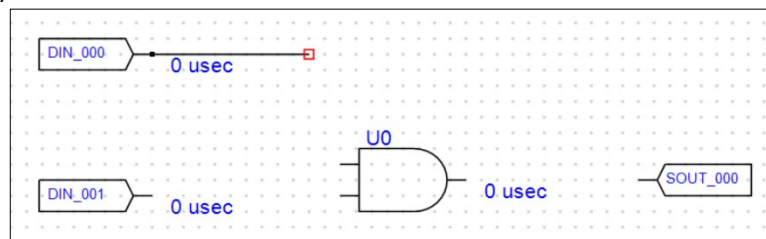

Figure 73 - Start of 2nd Segment
- 3) Start the next segment by holding down the Shift key then clicking on the end of the previous segment (Figure 73 - Start of 2nd Segment).